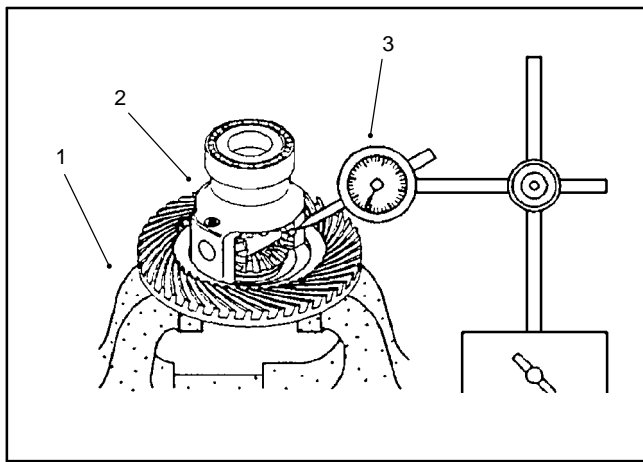

Figure 41
5. Secure the differential case in a vise. Position a dial indicator at the tooth's center and measure the differential pinion gear to side gear backlash (Fig. 41).